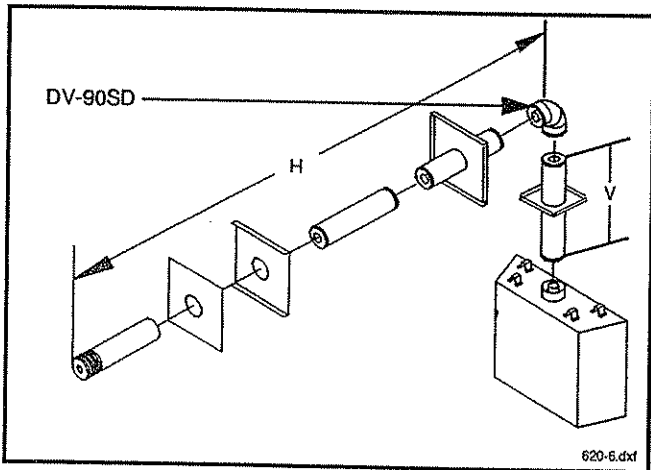

Fig. 6. One (1) 90° elbows.
Fig. 5. Basement installation (4" — 7" wall thickness). Figure 5 and Table 2 lists examples of possible venting systems using one (1) 90° elbow. V is listed as minimum vertical dimensions and H is listed as maximum horizontal dimensions. Other combinations of a one (1) 90° elbow system must have at least 1 foot vertical rise for each 5 feet of horizontal run. The maximum vertical and horizontal distances for one (1) 90° elbow as shown in Figure 6 are 20 feet and 25 feet respectively. Vertical dimensions are based on centerline to centerline of pipe. Horizontal dimensions are based on centerline of pipe to end of termination.